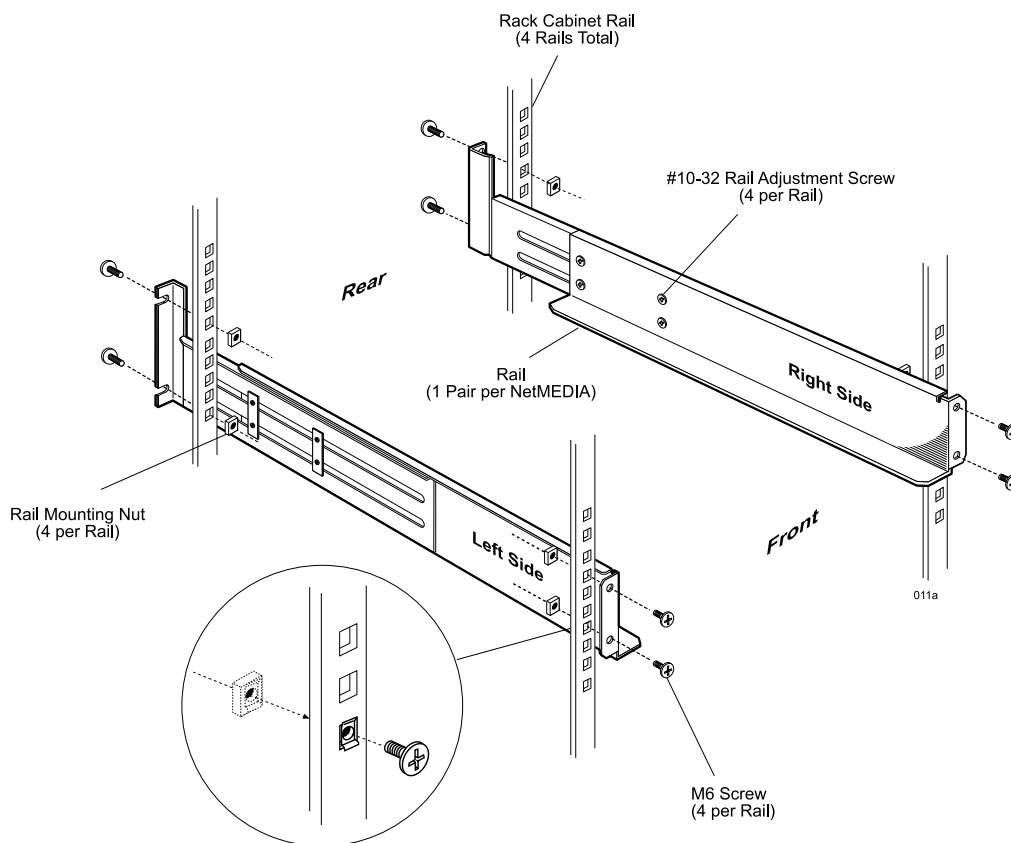

Figure 14: Installing the Rails
2. Secure the NetMEDIA chassis with two (2) M6 screws and two (2) rack mounting nuts provided (Figure 14).